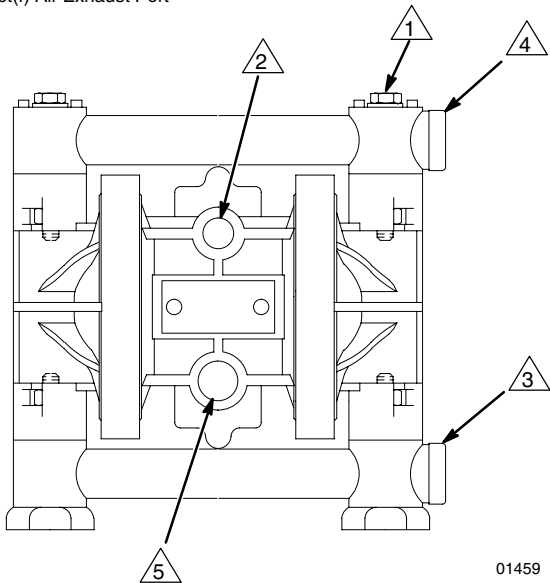

Fig. 4
2. The **VERDERAIR VA 10** Pump can be used in a variety of installations, some of which are shown in Figs. 4–3. Kits are available to adapt your pump to your system. Refer to the Product Data Sheets.
- a. The fluid pressure can be controlled. To control it on the air side, install an air regulator (H).
- b. Locate one bleed-type master air valve (B) close to the pump and use it to relieve trapped air. See the **Warning** above. Locate the other master air valve (E) upstream from all air line accessories and use it to isolate them during cleaning and repair.
- c. The air line filter (F) removes harmful dirt and moisture from the compressed air supply.
2. Install an electrically conductive, flexible air hose (C) between the accessories and the 1/4 npt(f) pump air inlet (see Fig. 4). Use a minimum 6.3 mm ID air hose. Screw an air line quick disconnect coupler (D) onto the end of the air hose (C), and screw the mating fitting into the pump air inlet snugly. Do not connect the coupler (D) to the fitting yet.
1. If using a conductive (Acetal) pump, use conductive hoses. If using a non-conductive pump, ground the fluid system. See **Grounding** on page 5. The pump fluid inlet is 3/8 bspt. See Fig. 4. Screw the fluid fitting into the pump inlet snugly.
1. Use electrically conductive fluid hoses (N). Depending on your model, the pump fluid outlet is 3/8 bspt or 3/8 npt(f). See Fig. 4. Screw the fluid fitting into the pump outlet snugly.
2. Install a fluid drain valve (J) near the fluid outlet. See the **Warning** above.
The pump is shipped with the fluid inlet and outlet ports facing the same direction. See Fig. 4. If desired, the direction of one or both ports can be changed. Remove the manifold(s) from the pump as explained in steps 1–2 and 4 on page 17. Reattach with the port facing the desired direction. See **Torque Sequence**, page 25. **Do not over-torque.**